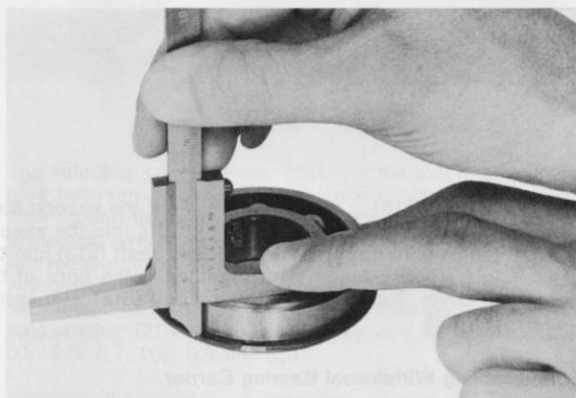

Fig. 53
3. Insert spring ring (211) into the groove of the ball bearing (212). Measure from the upper surface of the bearing to the spring ring. The spring ring must be pressed onto the outer edge of the bearing groove (Fig. 53).